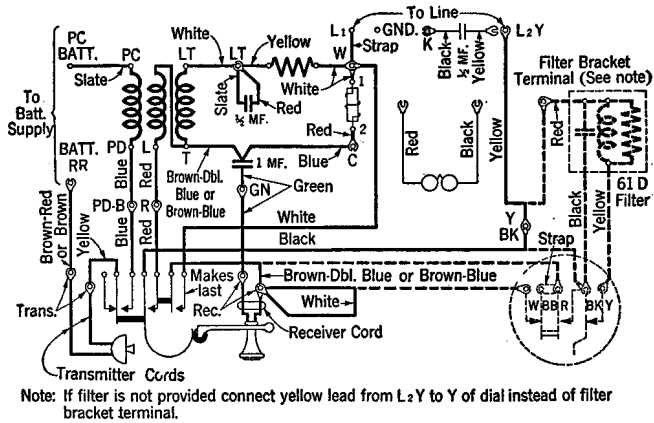

Fig. 8—653BB Anti-Sidetone Subscriber Set (Manual or Dial)
3.05 If a wall set is required, use the 653BB subscriber set connected as shown in Fig. 8 or the 357-type telephone set equipped with a F2B hand set, the connections of which are given in the section covering Telephone Sets, 357-type, Connections.